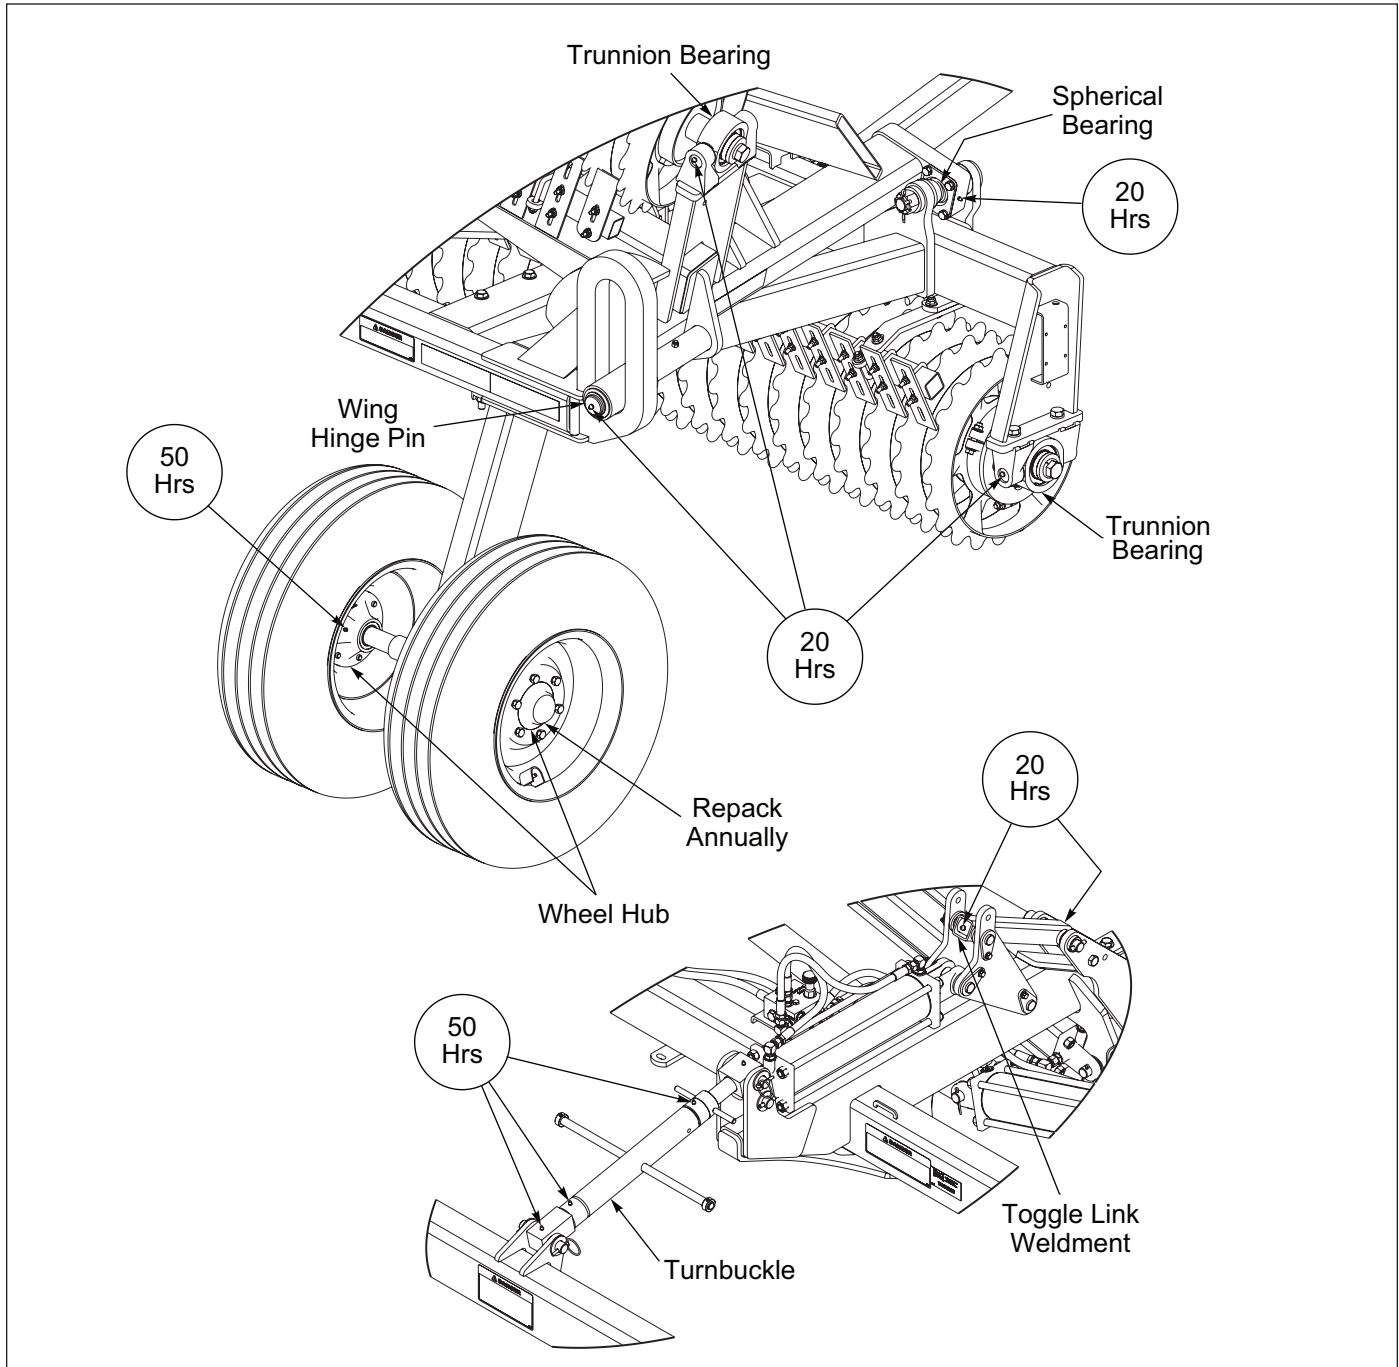

Figure 4-2: Lubrication Points and Intervals
- Lubricate with quality grease or if machine is not used for an extended period. **See Figure 4-2.**